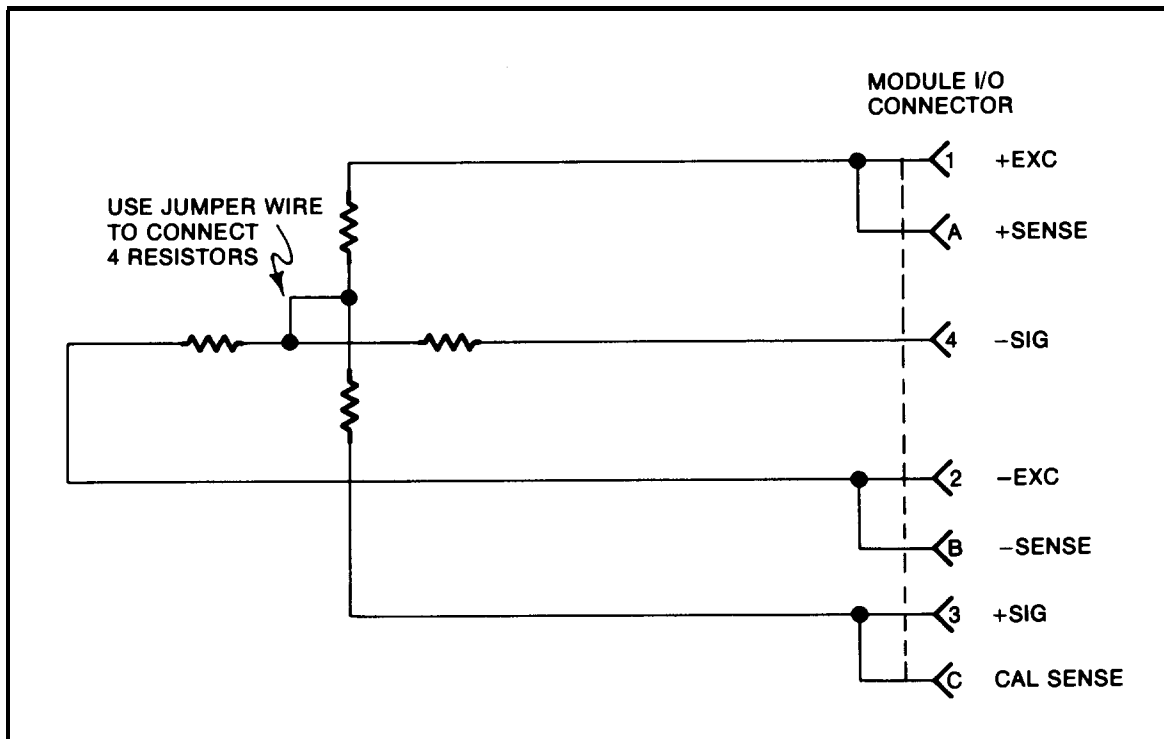

Figure 7. Star Bridge Construction
- (c) The inability to balance correctly where the instrument output reads totally off scale and the BALANCE controls have no authority can very likely be the result of a damaged or defective transducer or cable. This possibility can be confirmed (or eliminated) by substituting a transducer and cable known to be in good condition or by simulating a balanced transducer, using either a commercially available transducer simulator or the simple *star bridge* arrangement shown in Figure 7. The *star bridge* simulates a conventional four-arm bridge in an exact condition of balance. To construct a *star bridge* connect four 10% carbon resistors as shown in Figure 7. Use 180-ohm resistors to simulate a 350-ohm bridge and use 56-ohm resistors to simulate a 120-ohm bridge. Neither the resistor values nor temperature characteristics are critical since the balance condition of a *star bridge* is not determined by the resistance